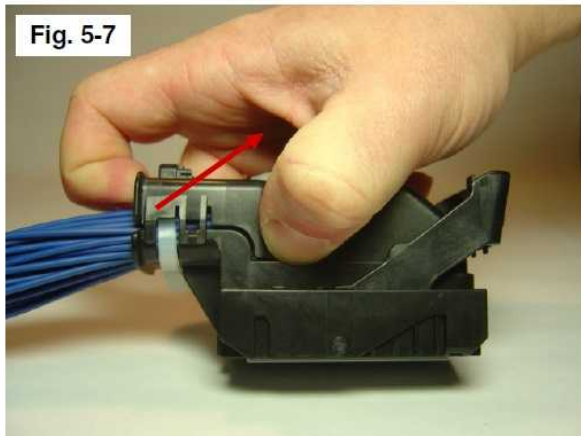

Fig. 5-7
- With the dress cover latch features unlatched, insert your finger into dress cover (Fig. 5-7) and pull up and away from the wire bundle. The dress cover can be completely removed at this point (Fig. 5-8).